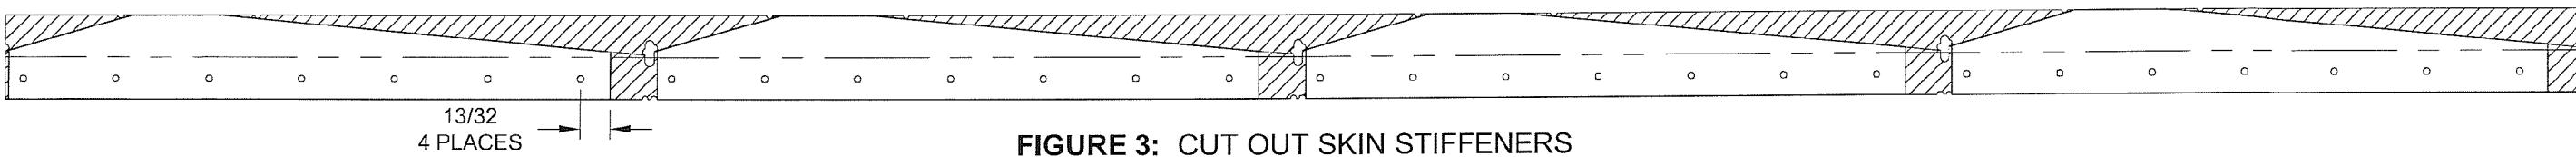

FIGURE 3: CUT OUT SKIN STIFFENERS
Step 5: Cut the A-710 Stiffeners from the angle strip provided and trim as shown in Figure 3. The angle strip is shown unbent for clarity.